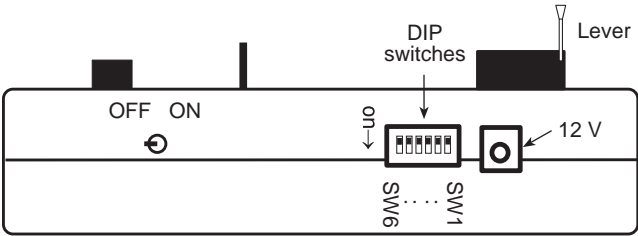
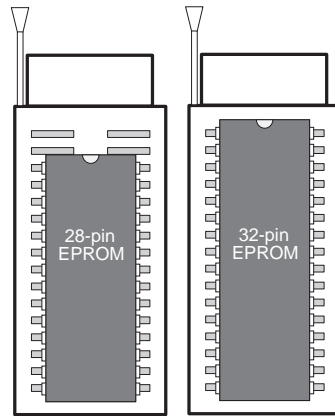

Figure I-3. Flash Programmer Side View Showing DIP Switches and Power Supply Input
Figure I-4. Positioning 28-pin and 32-pin EPROMs in Flash Programmer ZIF Socket
Four DIP switches (SW1–SW4) on the Flash Programmer’s back-panel (see Figure I-3) set the size of the master EPROM. SW5 indicates whether the Flash Programmer will copy an application to flash EPROM or whether the Flash Programmer will copy the BIOS.
1. Place the Flash Programmer's power switch in the off position and connect the 12 V power supply to the power jack on the Flash Programmer's rear panel as shown in Figure I-3.
2. Raise the Flash Programmer's ZIF socket's lever (see Figure I-3) to the vertical position. Place the master EPROM in the 32-pin ZIF socket of the Flash Programmer. Pin 1 of the EPROM should be in the upper part of the socket. If you are using a 28-pin EPROM, position the IC at the bottom of the socket as shown in Figure I-4 so that the top four socket pins are empty.